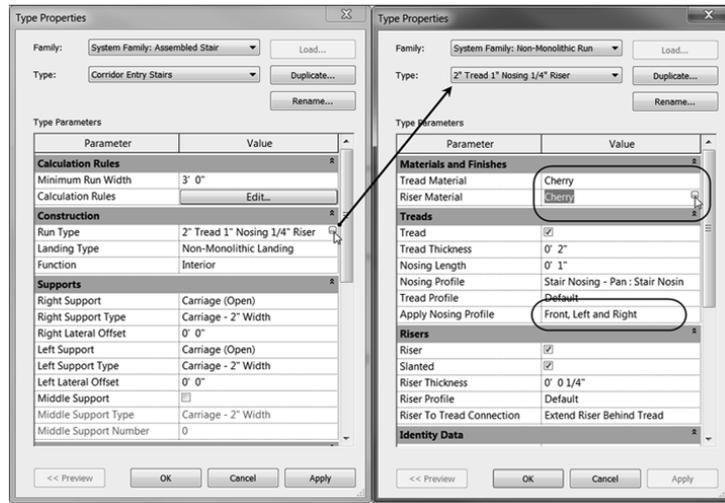

FIGURE 10.42: Customizing the stairs
18. Add Mahogany as the material to the Carriage – 2" Width. Your Properties dialog box should look like the one shown in Figure 10.42.